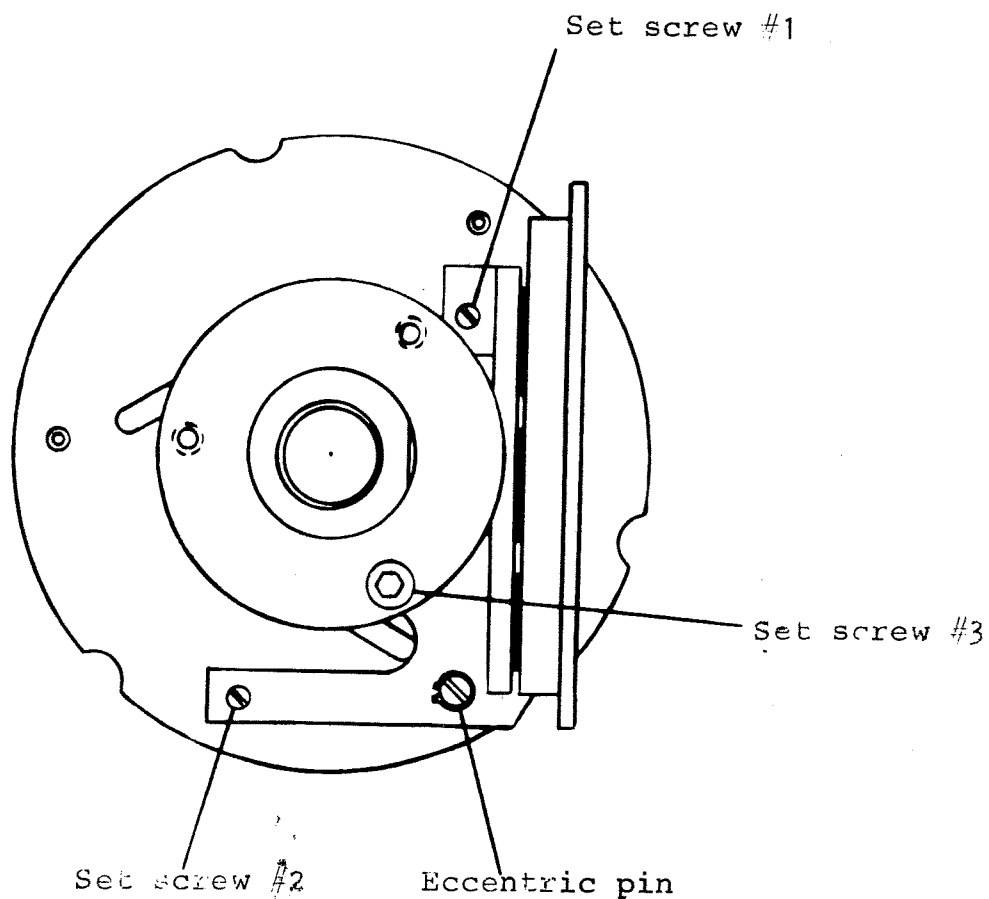

Figure 9. Mounting the grating assembly.
1. Place the instrument with the crank facing you and the entrance slit on your left. See Figures 9 & 10 throughout this procedure.
4. Hold the grating by the metal side strips and place the grating into it's respective slot and hole at the base of the grating holder. Be careful not to hit the grating on the instrument housing, (See Figure 9).
4. Release the set screws on the right side of the turret cylinder, (See Figure 9).